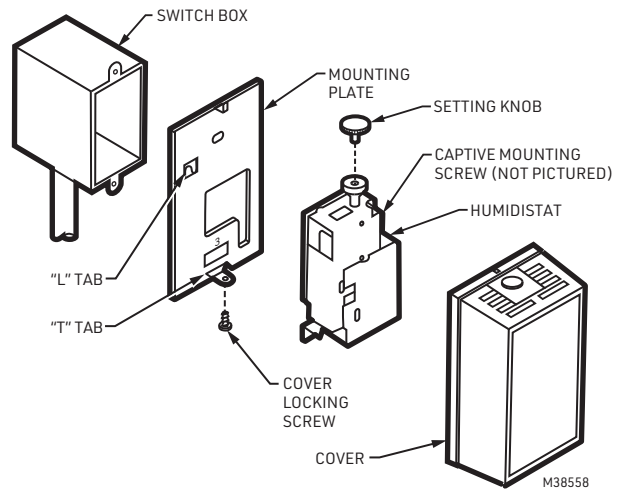

Fig. 2. Mounting H600A.
1. Remove the mounting plate from the control assembly by loosening the captive mounting screw (Fig. 2). Slide control to the right and lift up.